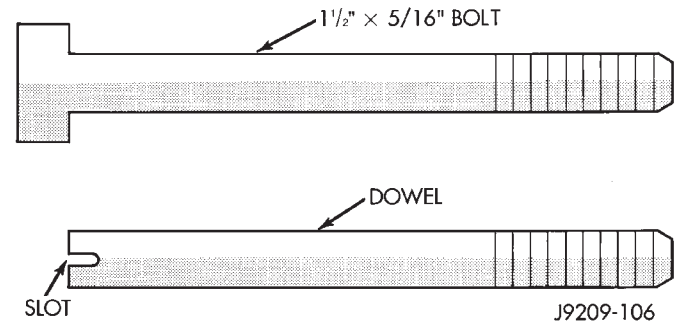

Fig. 42 Fabrication of Alignment Dowels
- (1) Fabricate 4 alignment dowels from 1 1/2 x 5/16 inch bolts. Cut the head off the bolts and cut a slot into the top of the dowel. This will allow easier installation and removal with a screwdriver (Fig. 42).
(1) Fabricate 4 alignment dowels from 1 1/2 x 5/16 inch bolts. Cut the head off the bolts and cut a slot into the top of the dowel. This will allow easier installation and removal with a screwdriver (Fig. 42).